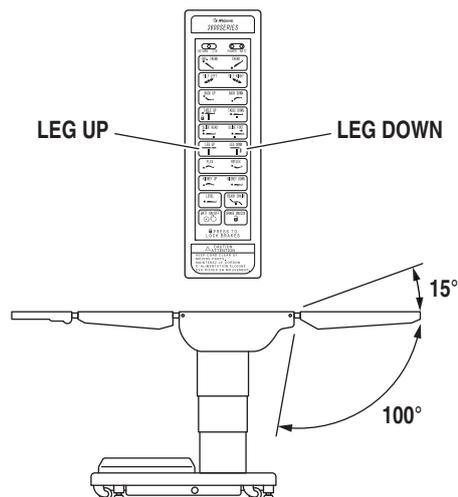

Figure 2-12. Leg Section Positioning
g. Leg Section To lower the leg section, press the LEG DOWN button (figure 2-12). The leg section will go down to 100° below horizontal. To raise the leg section, press the LEG UP button. The leg section will go up to 15° above horizontal.